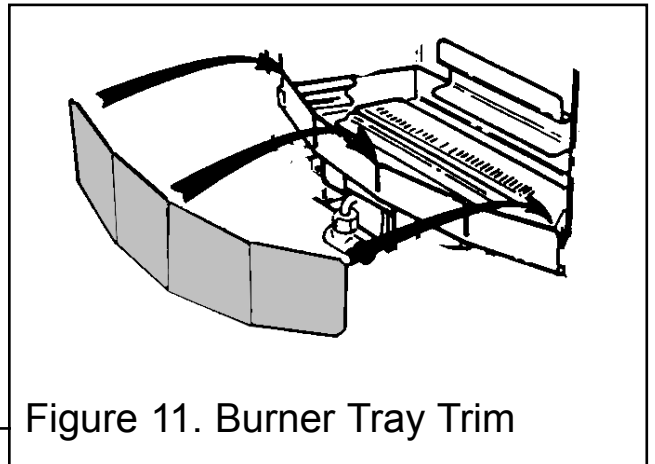

Figure 11. Burner Tray Trim
1. Fit the burner tray trim over the front rim of the burner tray. Push the trim fully down. See figure 11.